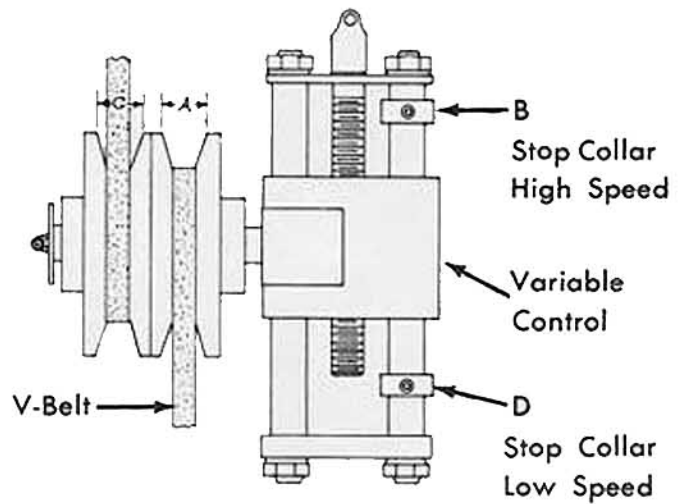

Fig. 2
If the variable speed control is forced out of adjustment, it may be readjusted by following instructions outlined below. In these instructions the spindle speed may be checked by a tachometer or if tachometer is not available an approximate speed can be set by measuring dimensions "C" and "A" in Figure 2.
1. Crank the handwheel to high speed until the pulley opening at "A" is $1\frac{3}{8}$ " (See Fig. 2) or until spindle speed is 1800 r.p.m. in direct drive.
3. Crank the handwheel to low speed until the pulley opening at "C" is $1\frac{3}{8}$ " (See Fig. 2) or until spindle speed is 325 r.p.m. in direct drive.